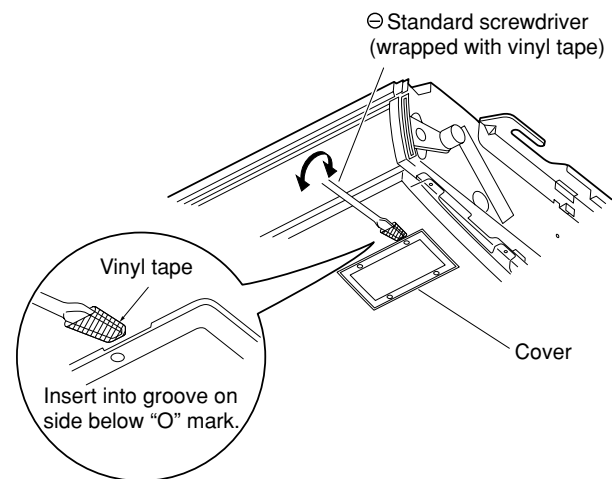

Fig. 11-8
- (2) Wrap the end of a standard (flat) screwdriver blade with vinyl tape. Then insert the screwdriver blade into the groove on the side of the cover below the "O" mark, and pry open the cover. (Fig. 11-8)